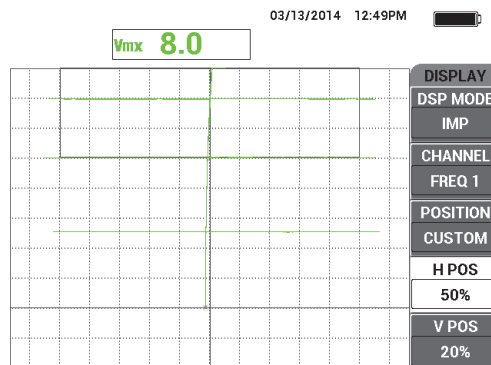

Figure 5-89 Creating more horizontal marks
10. Repeat step 9 using two business cards, and then again using one business card to create more horizontal marks (see Figure 5-89 on page 190).